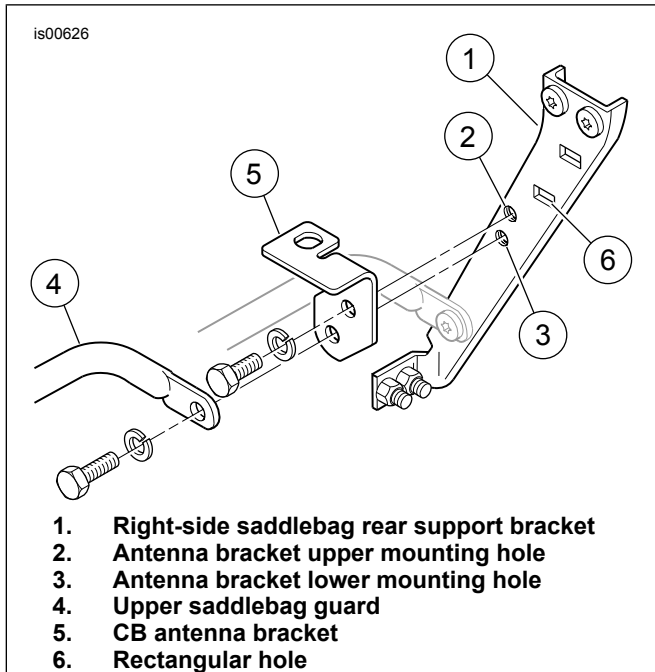
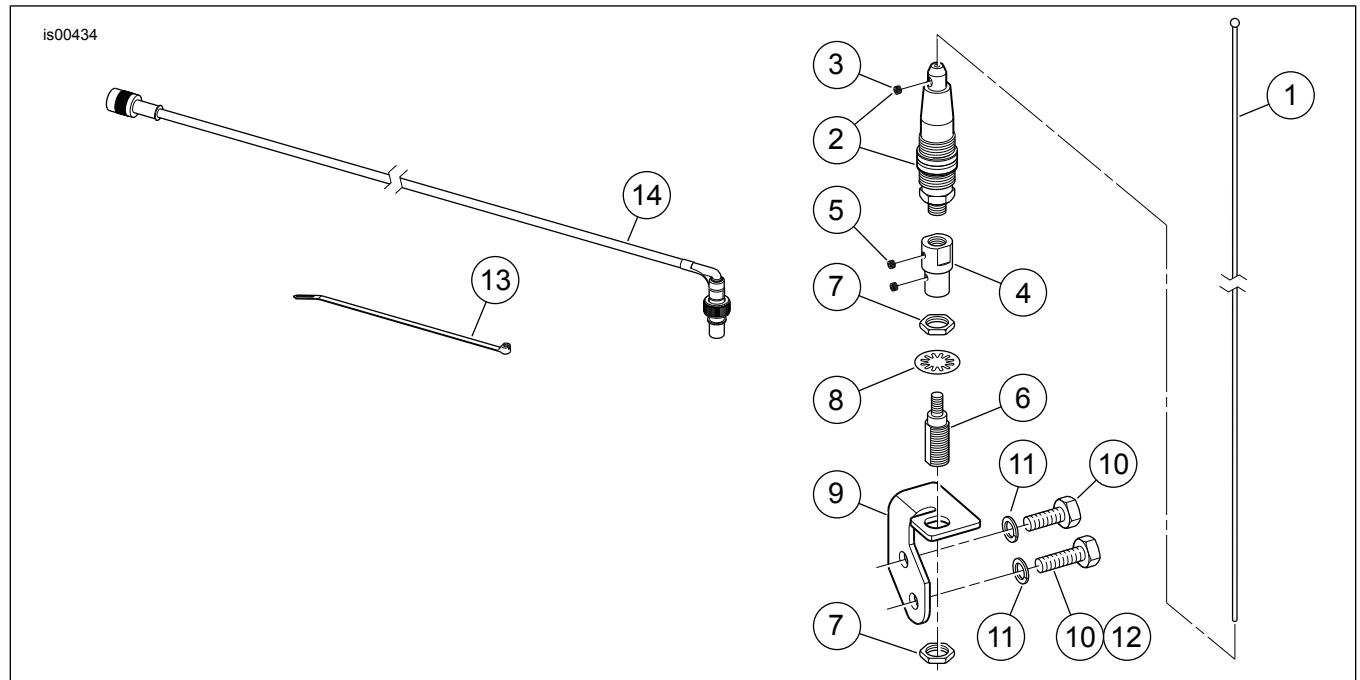

Figure 1. Antenna Mounting Location
Figure 2. Service Parts, CB Frame Mount Antenna
See Figure 2 and Table 1.
2. See Figure 1. Obtain the antenna bracket (5) from the kit.
3. Mount the antenna bracket to the right-side saddlebag rear support bracket (1). **In the upper hole (2)**, use a 5/16-18 x **5/8 in.** screw and lockwasher from the kit. **If NO saddlebag guard (4)**, use a 5/16-18 x **5/8 in.** screw and lockwasher from the kit to attach the antenna bracket to the lower hole (3) in the support bracket. **If a saddlebag guard (4) is mounted**, remove and discard the original upper rear guard mounting screw. Use the 5/16-18 x **7/8 in.** screw and lockwasher from the kit to attach the antenna bracket and guard at the lower hole (3) in the support bracket.
6. See Figure 2. Obtain the antenna adapter (4), two set screws (5) and the antenna base (6) from the kit. Thread the set screws part way into the holes in the side of the adapter. Thread the antenna adapter onto the antenna base.
7. Thread one of the 1/2-20 thin nuts (7) from the kit onto the antenna base assembly. Place the large internal tooth lockwasher (8) on the threads of the antenna base and insert the antenna base, from the top, through the hole in the antenna mounting bracket.
10. Thread the loading coil (2) into the top of the antenna adapter.
12. Use a 2 mm hex key to loosen the set screw (3) at the top of the loading coil. Insert the antenna mast (1) into the loading coil, and securely tighten the set screw to hold the mast in place.
14. Obtain the CB antenna cable (14) and cable straps (13) from the kit.
17. See Figure 1. Fasten the antenna cable to the saddlebag rear support bracket at the rectangular hole (6) with a cable strap.